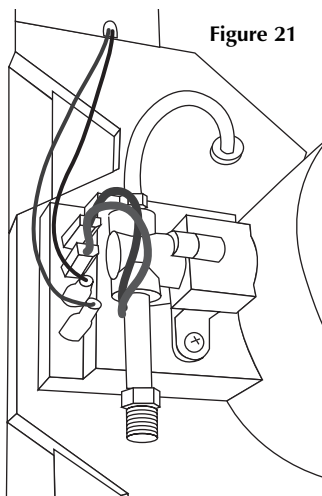

Figure 21
- Locate the humidifier terminal panel on the side of the humidifier cabinet, behind the bypass tube. Connect the two red wires from the Digital Humidistat Top Console to the two terminals marked "24 VAC IN" (fig 21). It does not matter which wire is connected to which terminal.